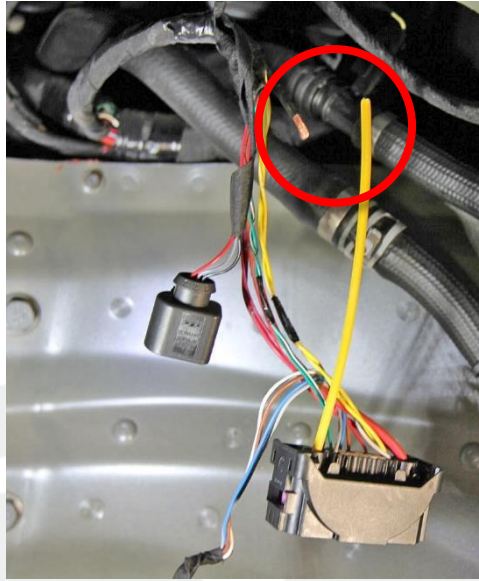

Figure 37
11. Cut the length of the newly installed wire to match with the length required for the rework per SI-17-17-002 (Figure 37).